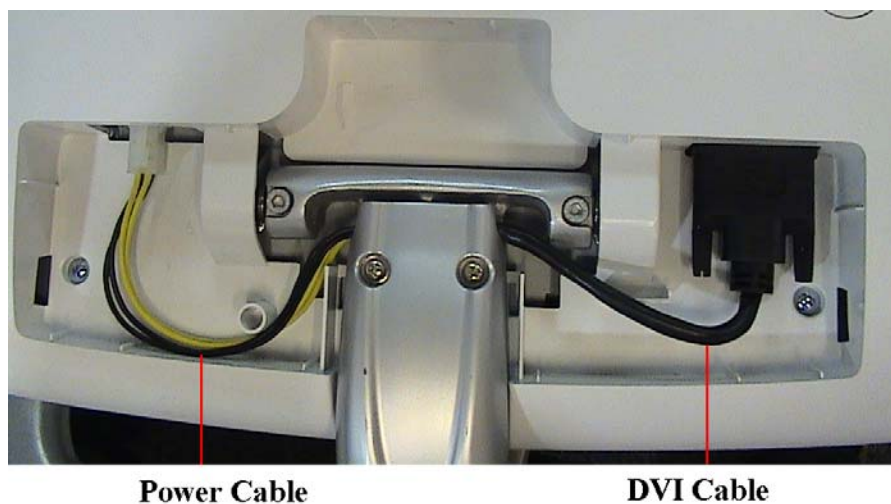

Figure 8-3 Power cable & DVI cable (LOGIQ iM/LOGIQ iM Basic)
- 6) Remove the Power cable cover of LCD monitor as shown below Figure 8-3 on page 8-5